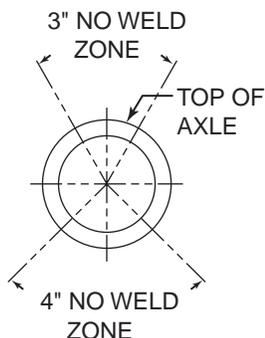

Figure 14. No Weld Zones
A) All welds must be kept away from the top and bottom of the axle where maximum stresses occur. The "no weld" zones are illustrated in (Figure 14).